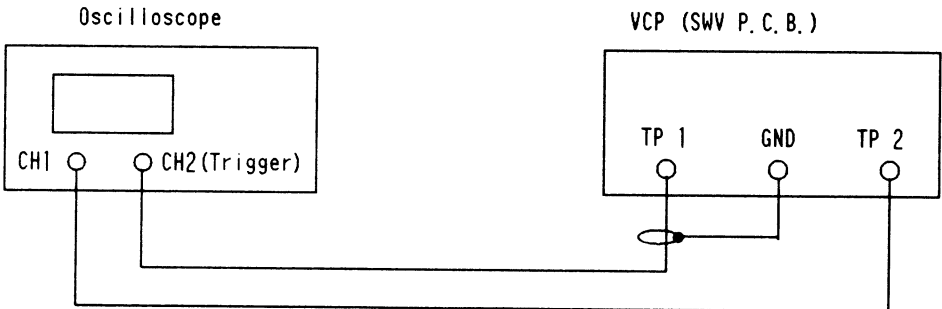

Fig. 10
1. Connect the equipment as shown in Fig. 10.